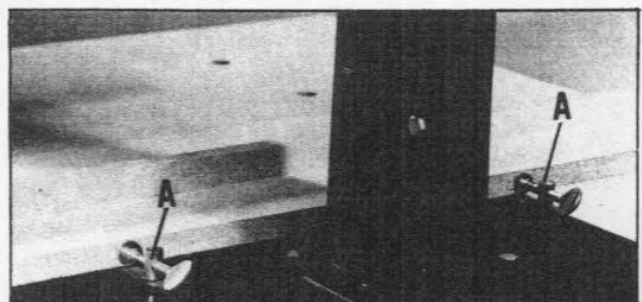

Fig. 18
6. Place the table board clamps (A) Fig. 18, in the holes provided in the rear of the base and tighten against the table boards.